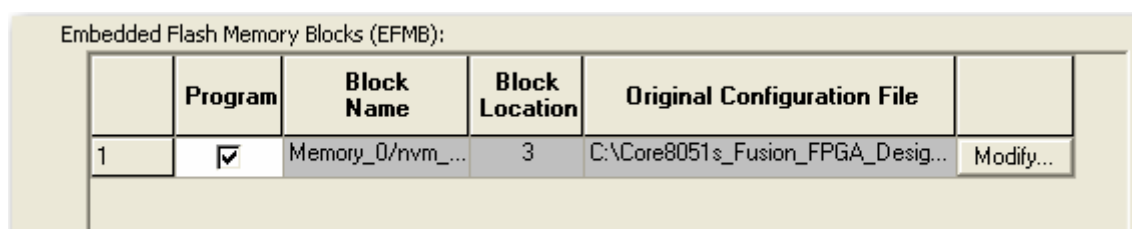

Figure 2-5 · Modify Button
- Click the **Modify** button in the Programming File Generator box (Figure 2-5). The embedded Flash Memory Block box will open.